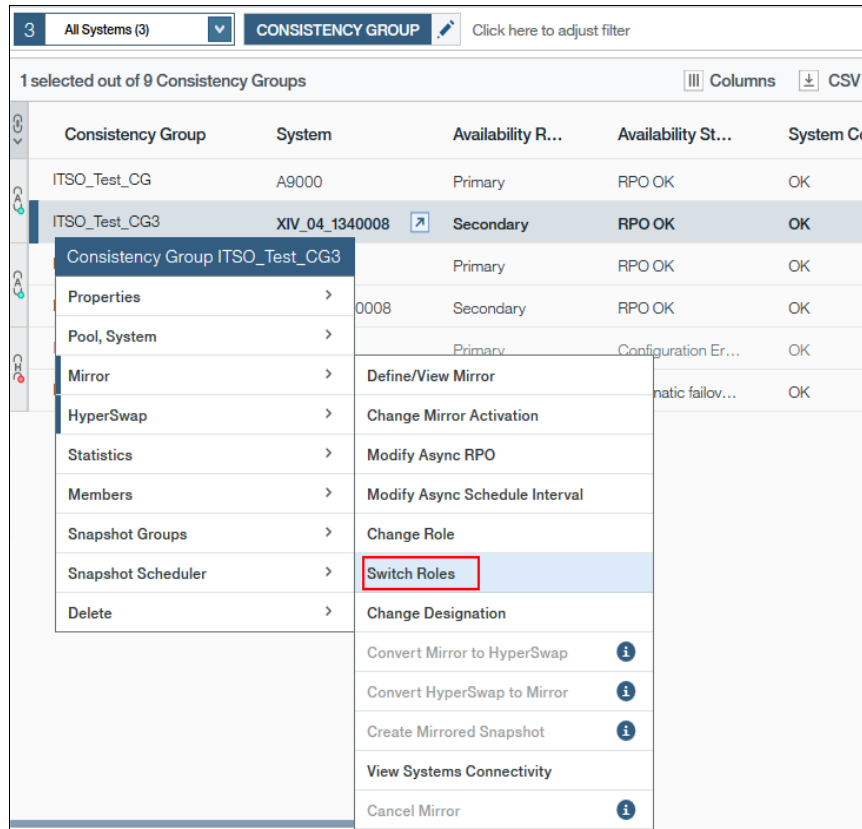

Figure 4-37 Selecting a consistency group to switch roles
7. Host server write activity and remote mirroring activity must be paused briefly before and during the role switch. Additionally, in the case of asynchronous mirroring, at least one sync job must complete before the switch to ensure the expected point-in-time copy of the data exists. Figure 4-37 on page 103 shows the action path for switching the role. Notice that this was done by right-clicking the consistency group to open the **Actions** menu.